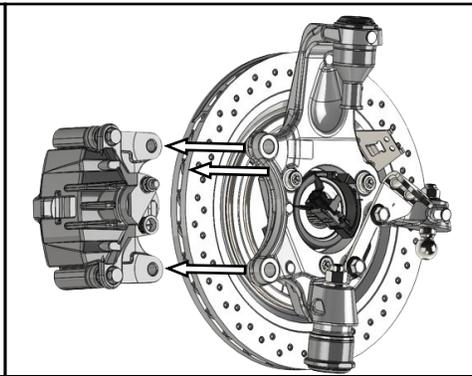

FIGURE 2. REMOVAL OF CALIPER FROM KNUCKLE (BRAKE HOSE NOT SHOWN IN PHOTO)
4. Carefully remove the caliper from the knuckle and retain, supported inside the vehicle wheel well (Figure 2, brake hose not shown in photo). **DO NOT allow the caliper to remain suspended in the air via the brake hose, this can damage the brake hose. Disconnecting the caliper from the brake hose is NOT necessary, doing so will require you to properly bleed the brake system per vehicle manufacturer specifications following reinstallation.**